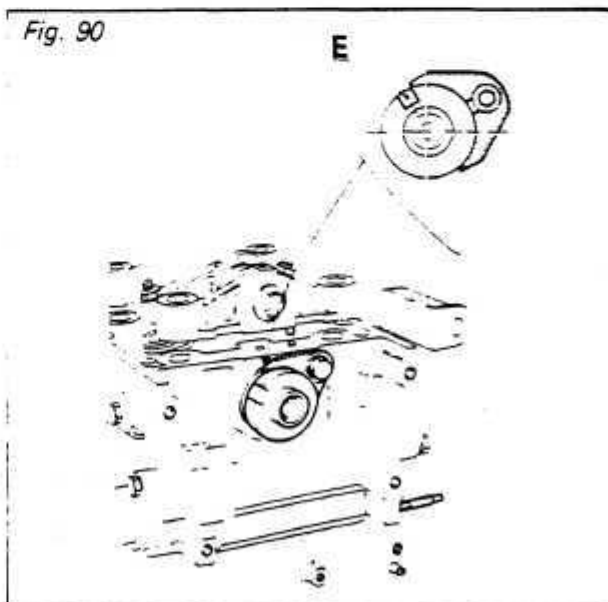

Fig. 90
Line up the LH camshaft so that its slot (E) is positioned as shown. (Fig. 90)